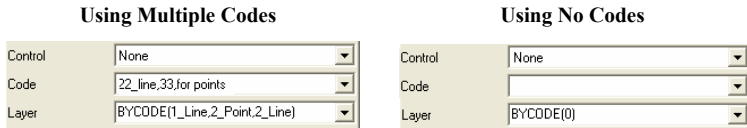

Figure 5-77. Layer Determination when Applying Codes
- If the point has multiple codes, setting Layer to “BYCODE” forces it to belong to multiple layers (Figure 5-77).
- If the point has no code, setting Layer to “BYCODE” forces the point to belong to layer 0 (zero) (Figure 5-77).